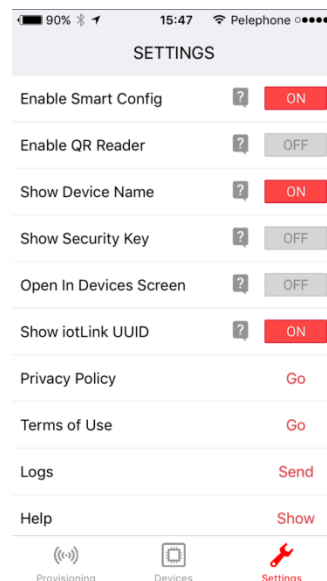

Figure 15. Wi-Fi Starter Settings Tab
1. Open the application and navigate to the Settings tab. Ensure the Enable Smart Config setting is set to ON (Smart Config is the preferred provisioning method, see Figure 15).